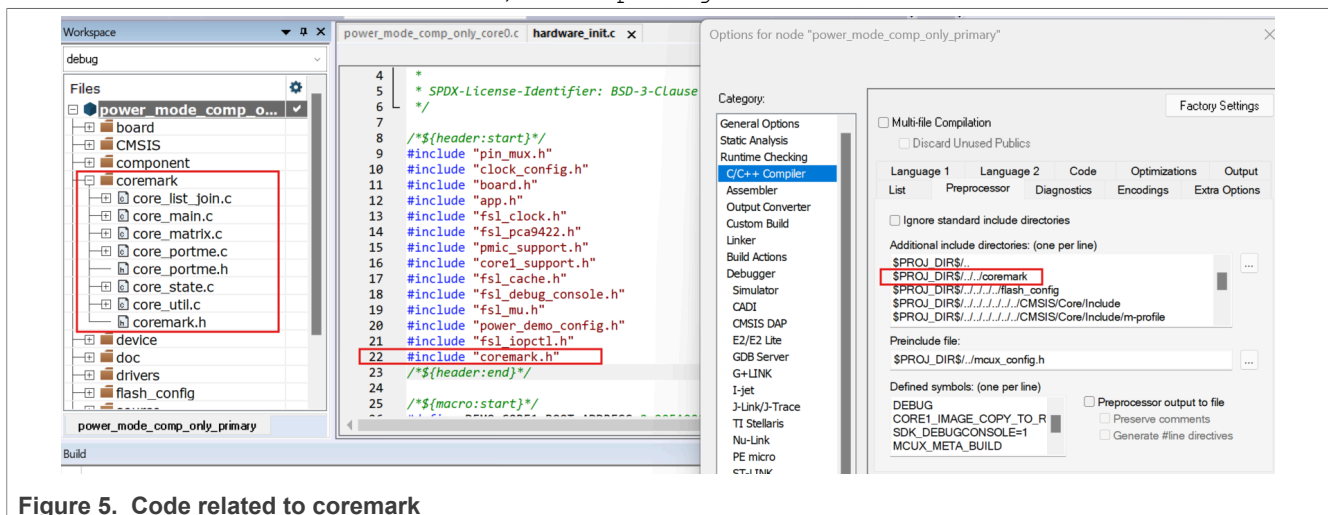

Figure 5. Code related to coremark
- Add code related to coremark to the primary project, use `coremark_main()` to replace the `SDK_DelayAtLeastUs`, as shown in Figure 5 and Figure 6.